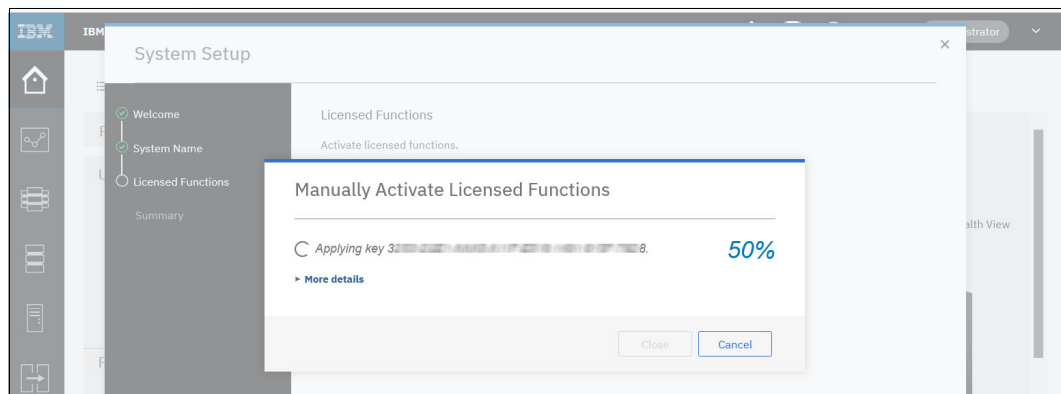

Figure 7-5 License key activation ongoing
- The next screens document the activation of the keys, as in Figure 7-5.